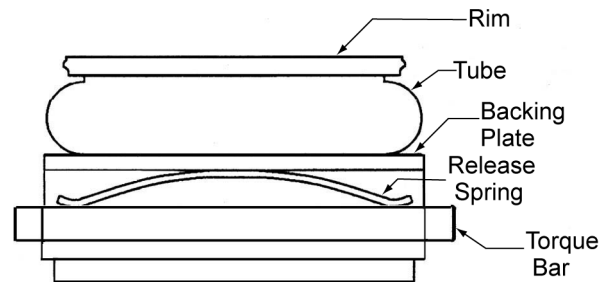

Figure 15
- 4.7.5 Place a torque bar in each mating hole in the side plate, slide a friction shoe assembly onto each torque bar and carefully tap a release spring (51VC1600, 60VC1600 and 76VC1600 elements have two release springs in each cavity) into place. Make sure the spring is positioned on the side of the torque bar opposite the friction lining. Also, the spring must contact the torque bar at two points, not one. See **Figure 15**.